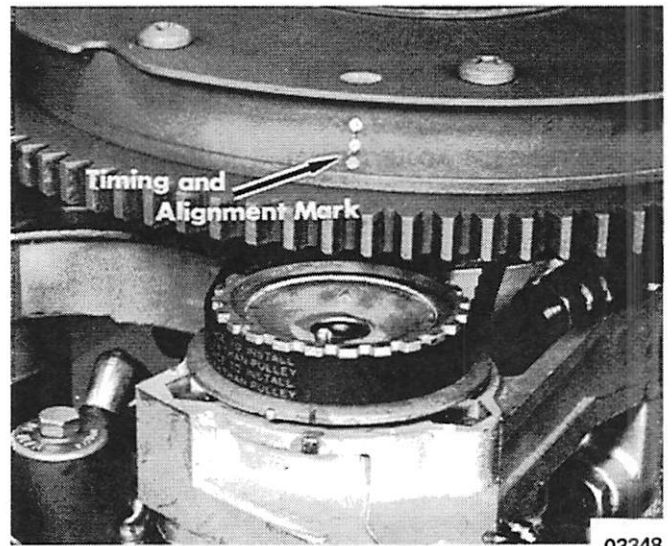

Figure 3. Alignment and Timing Marks on Flywheel and Pulley - Merc 650SS
2. Merc 650SS: Rotate flywheel until "timing mark" (three white dots stamped on side surface of flywheel) is aligned with arrow on distributor pulley. (Figure 3)